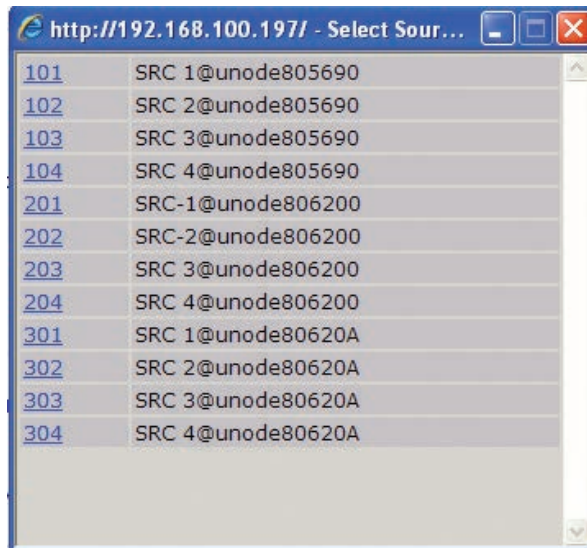

Figure 2-2
- The next step would be to define the audio that is present at the output. This is done by choosing the browse button next to the channel text box. A popup will appear with a list of sources that are present on the network. A sample of three xNodes freshly installed into a network is shown in figure 2-2. At this point, not many sources have been configured with valuable descriptive names. Hopefully you see the value of the good practice in using the naming fields. Once you have configured all your xNode sources and other Livewire devices, this browse popup will have more descriptive information which will help you locate the correct source to assign to an output (Destination).
If you notice in figure 2-2, the three xNodes are showing a default host name which provides little assistance to the end user. To resolve this you can select the *System* link under the *Advanced Options* to change the host name to something more descriptive (e.g. Studio1-MICs, TOC-AES1, SATRCK-GPIO1). With a descriptive host name applied to the xNode, a listing of available audio streams will be displayed in a more descriptive manner, i.e., Host-Mic@Studio1-MICs Guest1@Studio1-MICs CD1@Ctrl1-AES WXYZ-tune@TOC-ANA1, etc.